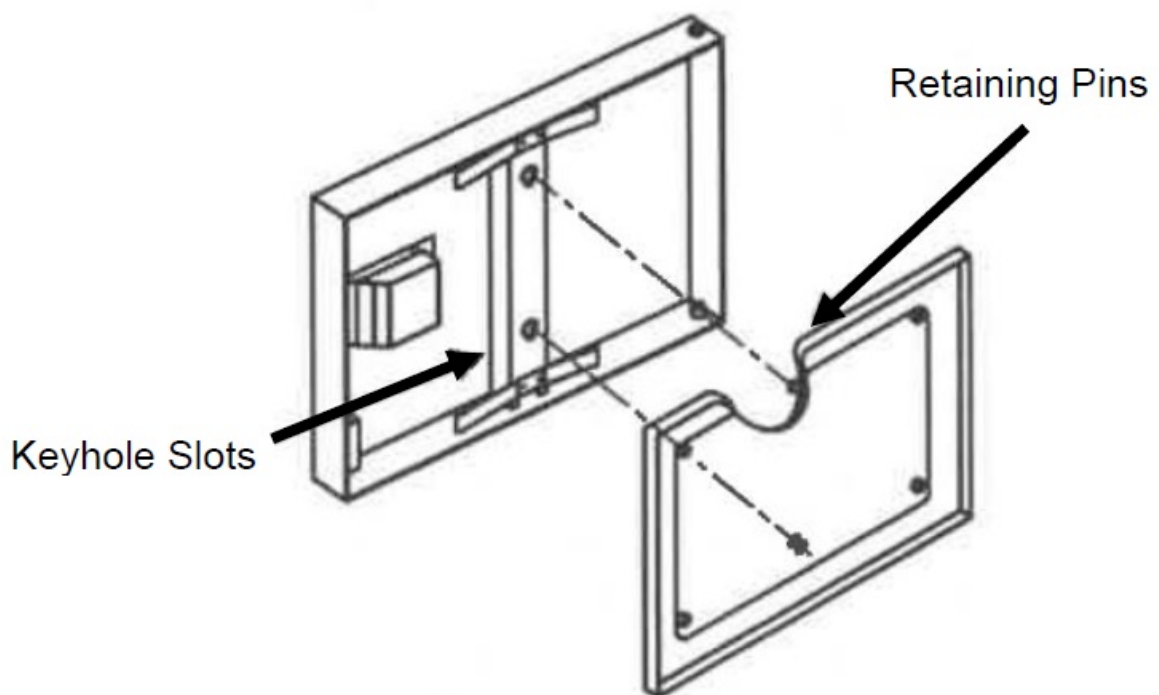

Figure 6-1
1. Remove the door gasket assembly (see Figure 6-1) by holding the gasket assembly at the side and lifting up and away from the door.